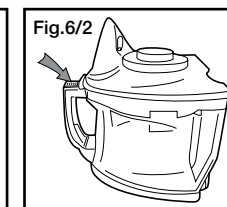

Fig.6/2
2. Press the button as indicated (Fig.6/2) to empty the dirt into a rubbish bin. When all of the dirt is released, close the dirt container flap and replace the dirt container.